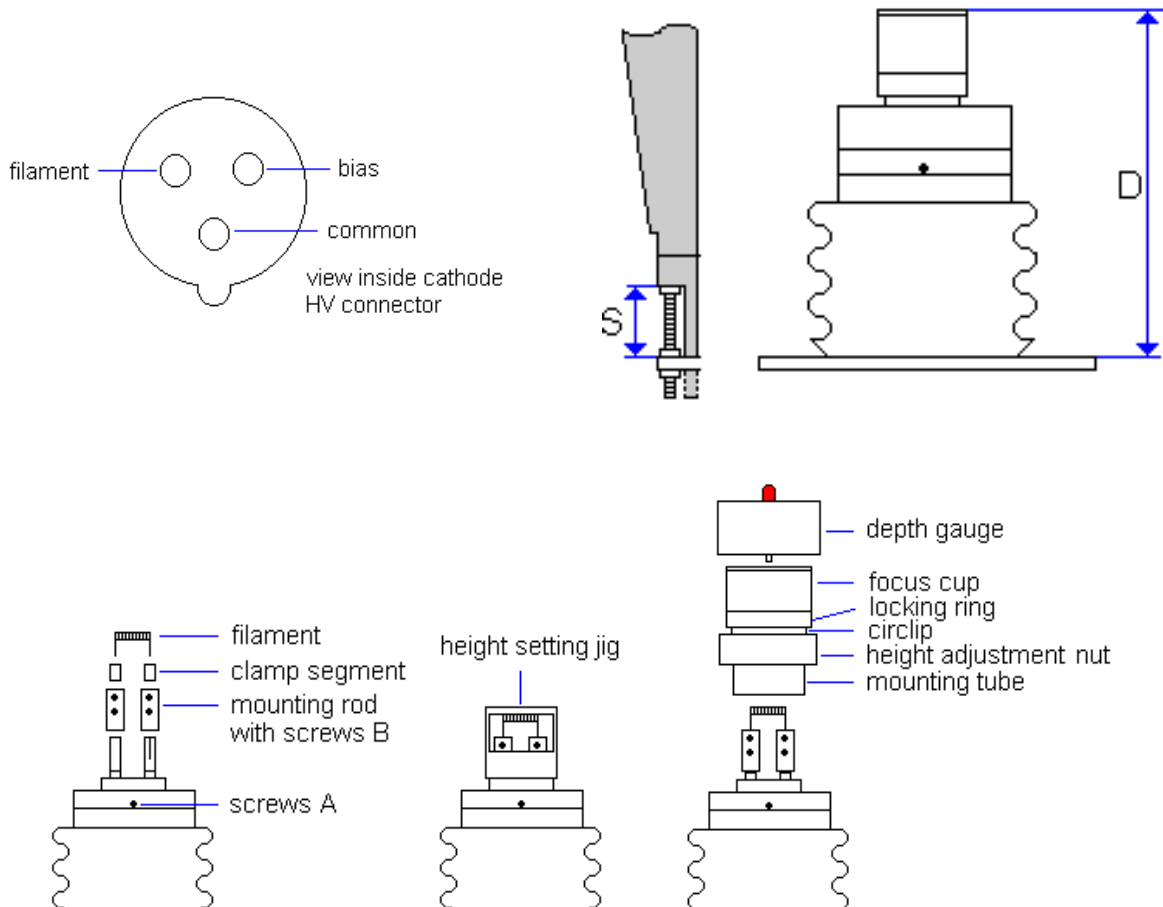

Figure 6.1 – Removing the filament
6. Confirm that the filament is broken by measuring the resistance in the HV connector with (long) measuring probes between the COMMON and FILAMENT contacts (Figure 6.1). An intact filament has a low resistance.
9. Remove the cathode. Take care not to change the distance S (Figure 6.1).
10. Measure the distance D (Figure 6.1).